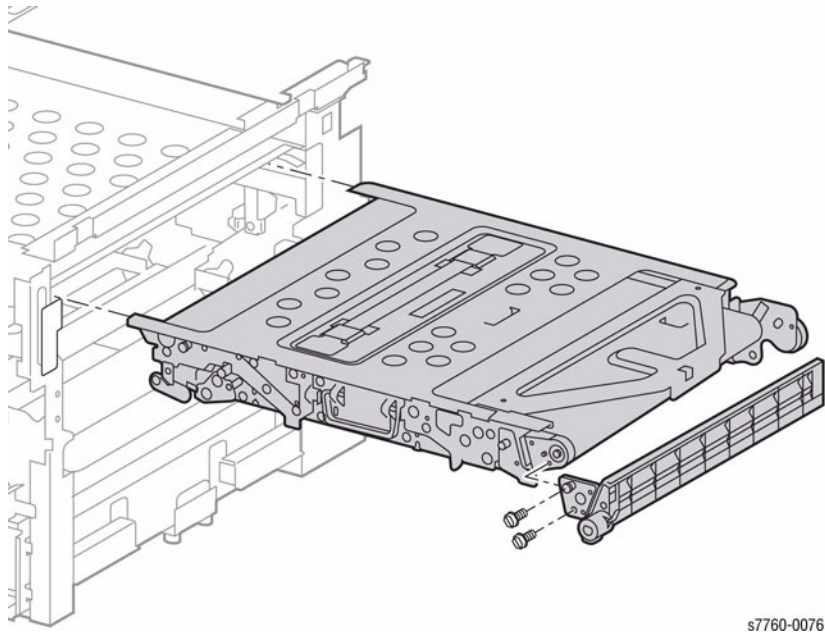

Figure 1 Removing IBT Belt (Accumulator Belt) Cleaner Assembly
5. Remove the 2 screws and remove IBT Belt Cleaner Assembly (Figure 1).